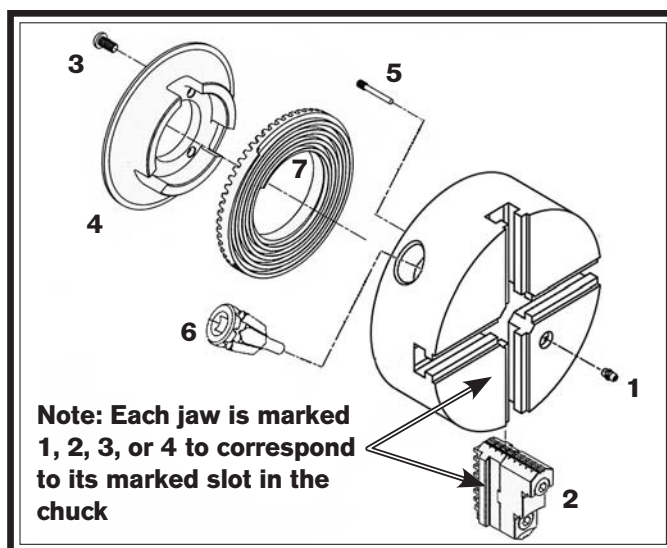

Figure 2. Chuck sequence of disassembly.
4. Using a 4mm and 6mm hex wrench, a #1 standard screwdriver, and a ratchet with a 7mm socket, start at #1 and disassemble the chuck in the sequence shown in **Figure 2**.
7. Coat all parts with any automotive NLGI #2 grease, and carefully reassemble the chuck in the reverse order shown in **Figure 2**.